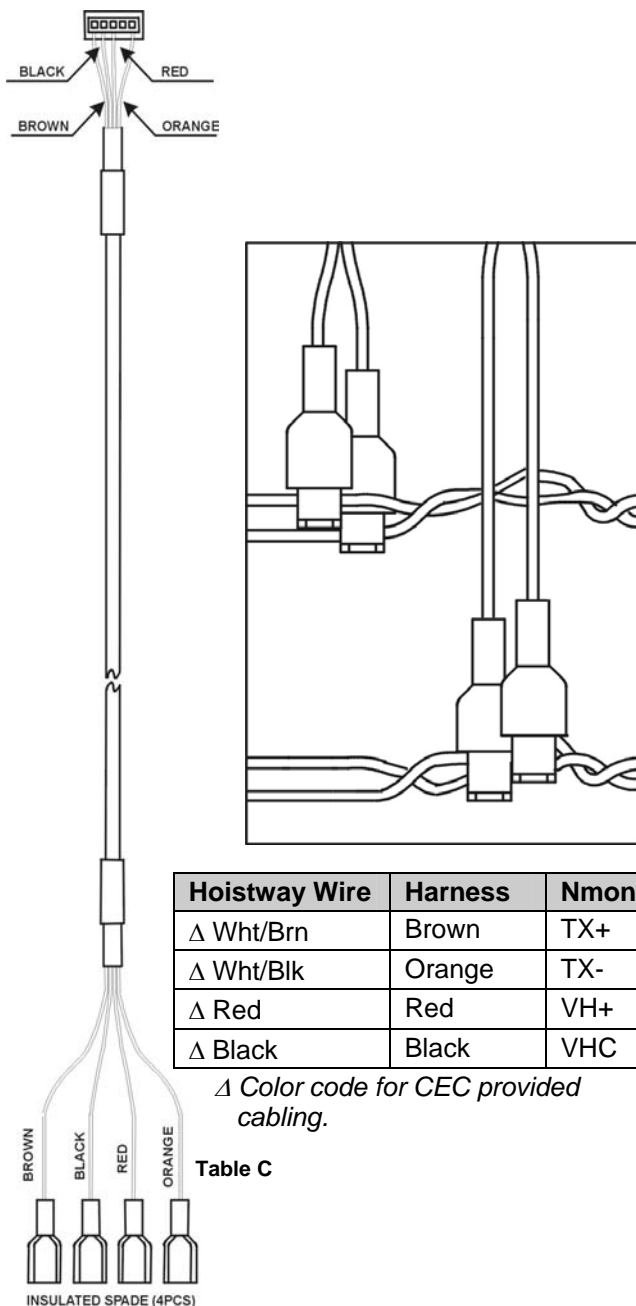

Figure 1-16
- Connect cable to the wires using the fasteners provided. [See Figure 1-16 and Table C.]
- Connect the cable to the wires using the provided fasteners. [See Figure 1-16.]